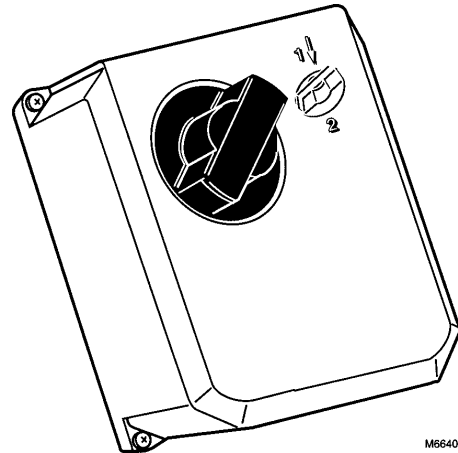

Fig. 7. ML7421A,B manual operator knob.
- When wiring and checkout are complete, replace the cover, tighten the cover screws, and replace the manual operator knob, see Fig. 7.
The ML7421 is equipped with a manual operator knob (see Fig. 7) to open or close the valve in the event of power failure. Turn off or disconnect the power supply before manually operating the ML7421.